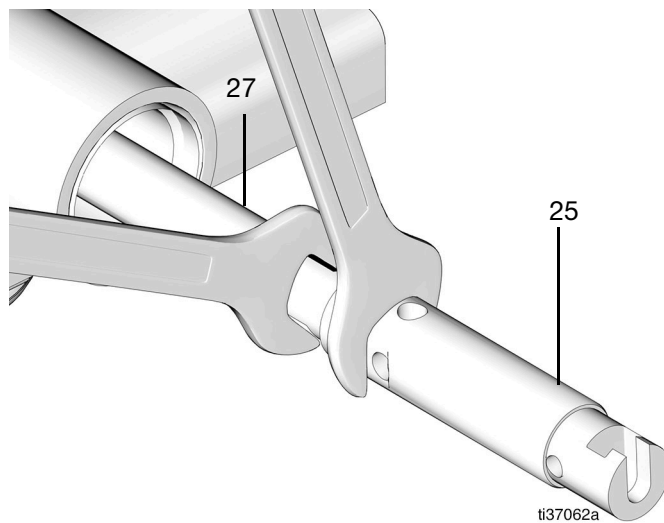
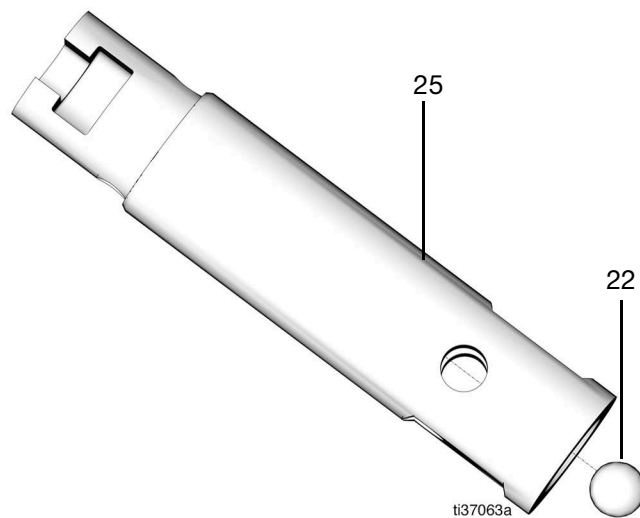

FIG. 43
FIG. 44
27. Remove the pump piston (25) from the pump rod (27) (FIG. 43).
Note: Remove the ball (22) from the pump piston (25) (FIG. 43 and FIG. 44).